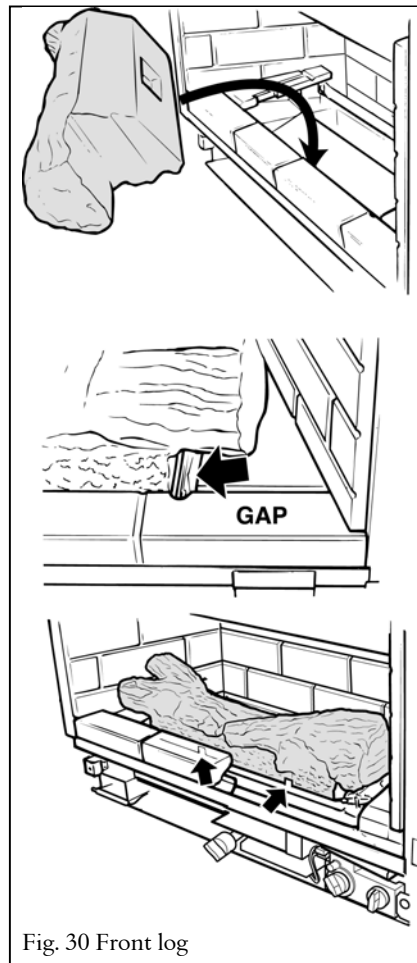

Fig. 30 Front log
- 7.8.5 Install the front log. The front edge of the log should rest behind the vertical metal edge of the firebox base which is behind the front base bricks and front burner tube. Be aware that there should be a gap between the right side of the front log and the right side base brick. There should be no gap at the left side (fig 30).